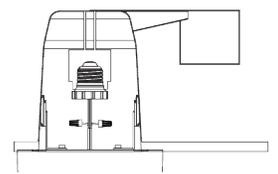

Fig. 11
5. Once assembly is complete, turn on power to confirm fixture is working properly. (Fig. 11)